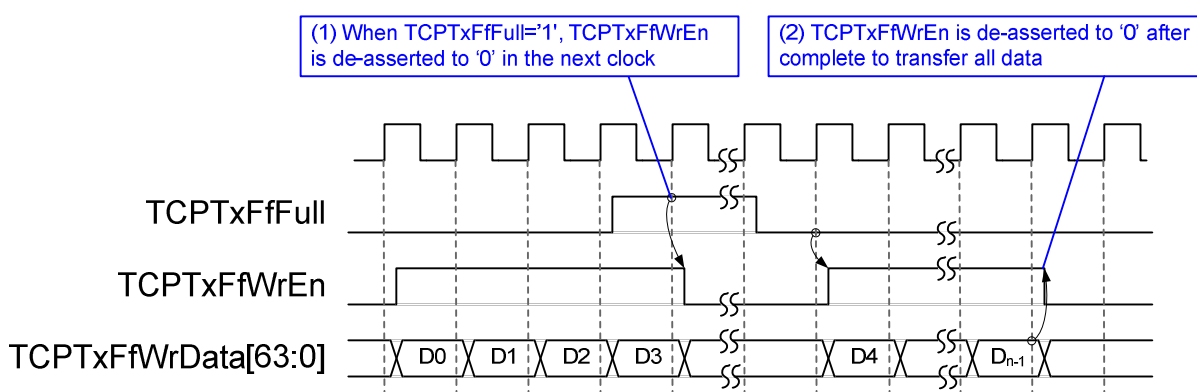

Figure 2-5 Tx Pattern Generator Timing diagram
- c) Tx Pattern Generator generates 32-bit increment data to TCPTxFf interface. TCPTxFfFull is monitored during generating data. Data is transferred by asserting TPCTxFfWrEn=1' when TCPTxFfFull='0'. If TCPTxFfFull = '1', TCPTxFfWrEn will be de-asserted to '0' to pause data generation. TCPTxFfWrEn is cleared to '0' after total data are transferred completely, as shown in Figure 2-5.